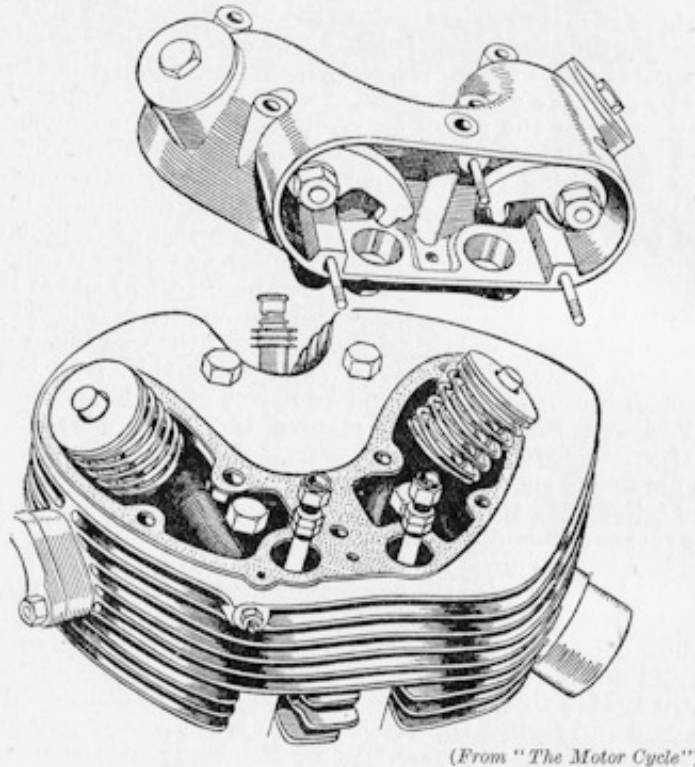

FIG. 18. THE 1939 O.H.V. CYLINDER HEAD AND ROCKER-BOX
**On 1939 Engines.** The cylinder head (see Fig. 18) should be removed with the push-rod cover tubes attached at their upper ends to the head. The two one-piece covers are sandwiched between the head and the top face of the crankcase, oil leakage being prevented by a composition joint at the top and a rubber gland (like an umbrella rubber ring) joint at the bottom. If these joints should be damaged, immediate renewal should be made.